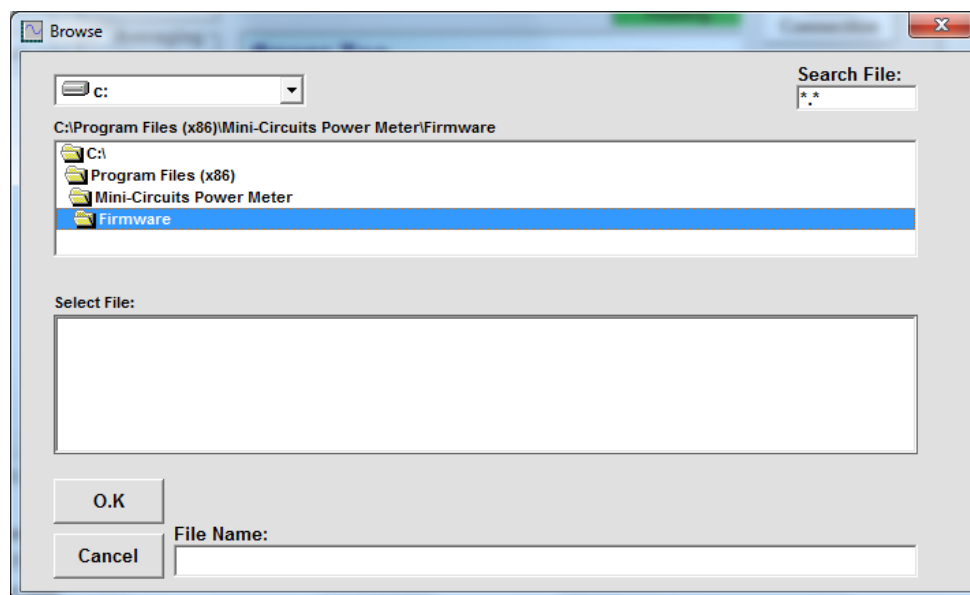

Figure 3.7.5: Firmware - Browse Window
3.7.5 **A browse window will open to the firmware directory** under the path you selected when installing the GUI program (See Fig. 3.7.5). Navigate to where you saved your firmware file in **section 3.7.1**, Select the firmware version you wish to install and click 'O.K'.